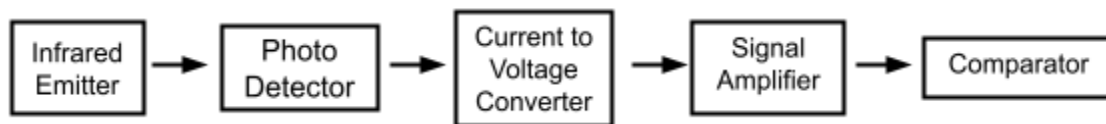

Figure 5.5 – Components from Lab 4.
A. Based on the measurements you made of the various components in Lab 4, design the system contained in the dashed box in Figure 4.1 of Lab 4 (see also Figure 5.5 of this lab). The design should be such that the output of the comparator is at its high level (+5V) when the light beam is unobstructed and at its low level (0V) when the light beam is obstructed. **Include a schematic diagram of your design including all resistor values.**
**Task 1** – For the first part of this lab, you are going to combine the pieces you studied in the last lab. Using the circuitry studied in the previous lab, you should implement each of the boxes shown in Figure 5.5. The design should be such that the output of the comparator is at its high level (+5V) when the light beam is unobstructed and at its low level (0V) when the light beam is obstructed. Please see the lab report section at the end of this lab for a description of items from this task that you need to include in the lab report.